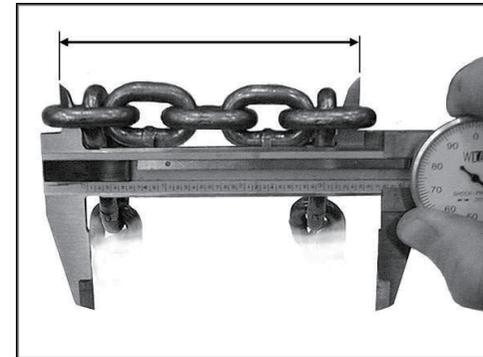

FIG 12
• Carefully inspect the entire load chain. As illustrated in (FIG 12), measure five consecutive links with calipers to find the length, Compare the results with the table in (FIG 12). Check every three feet and especially where excessive wear is indicated. Any load chain that shows noticeable deformation or heat influence must be replaced with a new one.